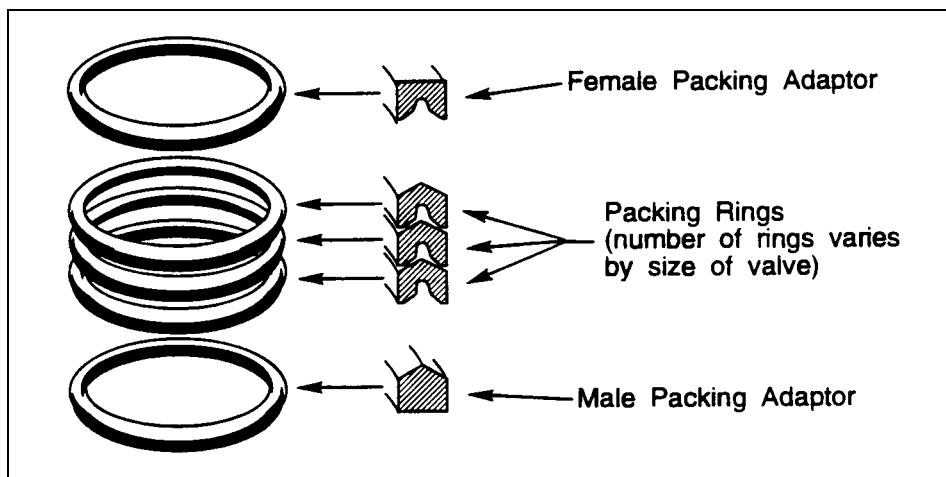

Figure 4 — Correct Packing Installation Sequence
9. Lubricate the new packing, then install it one ring at a time as shown in Figure 4.